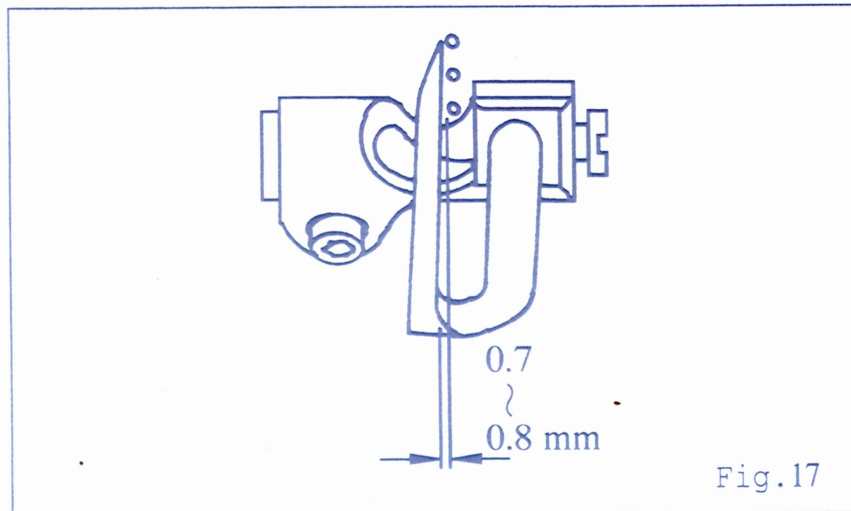

Fig.17
1. Fix the Loper on the Loper Holer, make sure Loper deflect to the right about 0.7mm~0.8mm. (Fig 17)